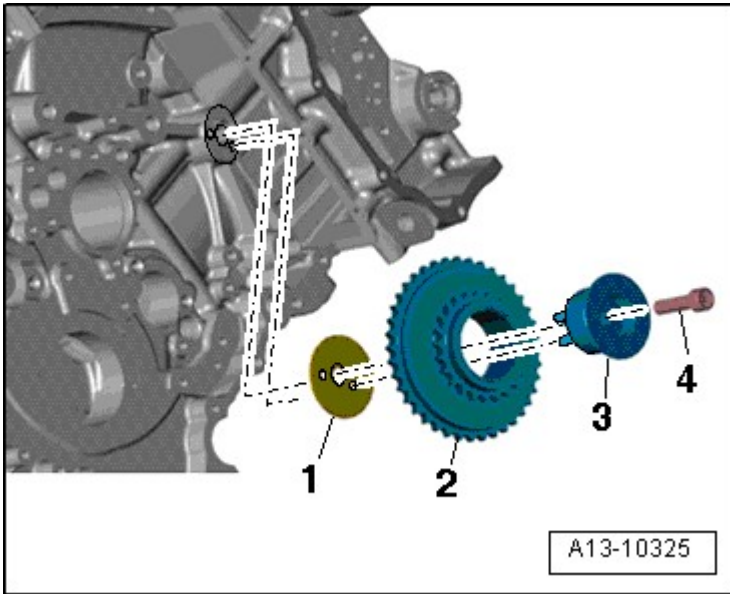

Fig. 8: Locating Camshaft Timing Chain Drive Sprocket Mounting Pins
- Installed location **Fig. 8**
- Tightening specifications, item 10 10
- Tightening specifications, item 5 5